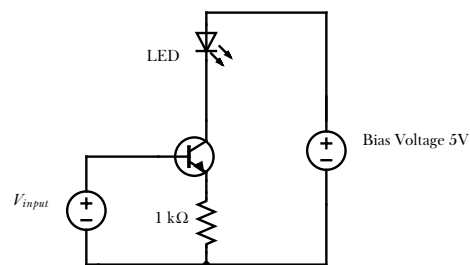

Figure 4: Voltage Controlled Current Source Circuit.
E.1) The circuit design for a VCCS, acting here as a buffer, is as in Figure 4.